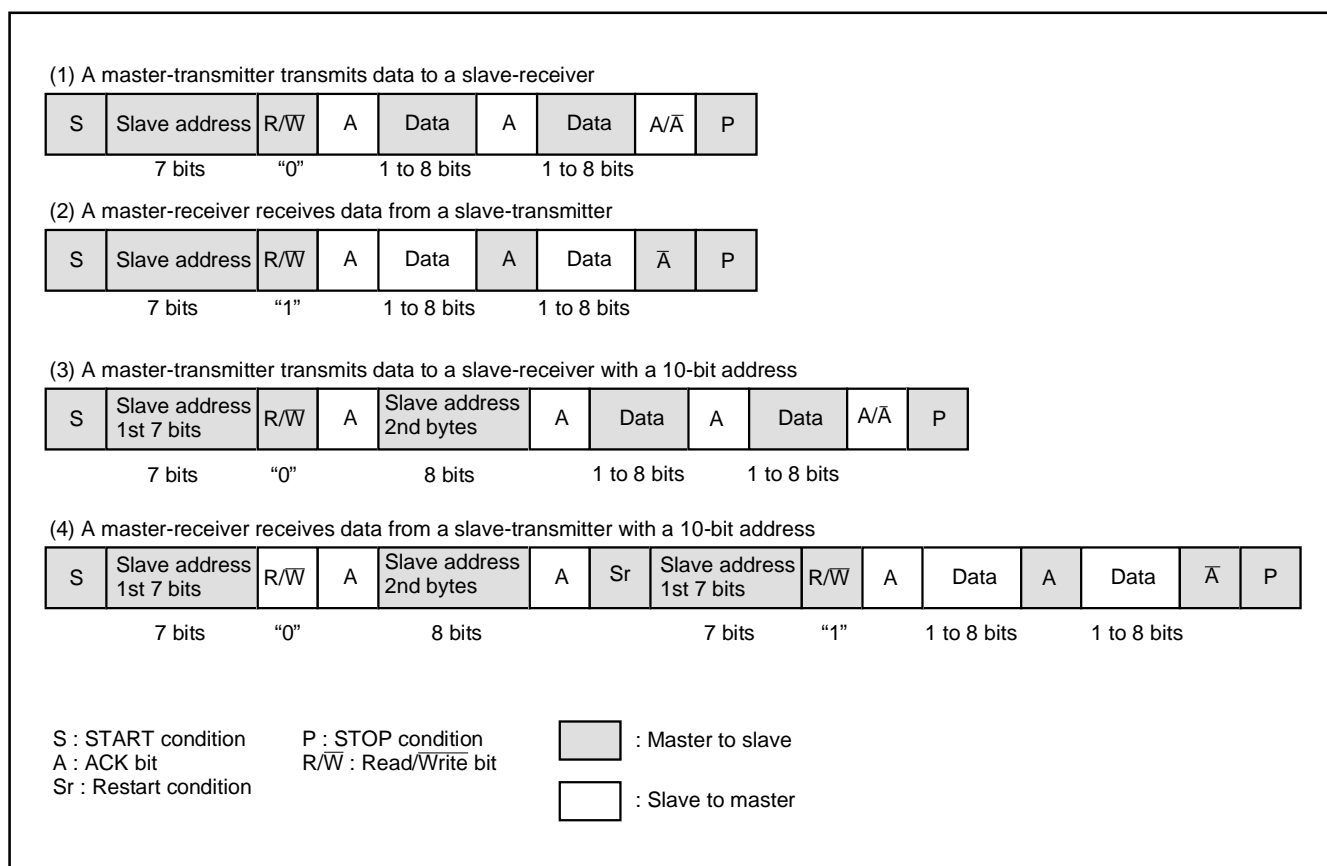

Fig. 69 Address data communication format
① 7-bit addressing format
To adapt the 7-bit addressing format, set the 10BIT SAD bit of the I²C control register (S1D: address 0014₁₆) to "0". The first 7-bit address data transmitted from the master is compared with the high-order 7-bit slave address stored in the I²C slave address register. At the time of this comparison, address comparison of the RWB bit of the I²C slave address register is not performed. For the data transmission format when the 7-bit addressing format is selected, refer to Figure 69, (1) and (2).
② 10-bit addressing format
When the first-byte address data agree with the slave address, the AAS bit of the I²C status register (S1: address 0013₁₆) is set to "1." After the second-byte address data is stored into the I²C data shift register (S0: address 0011₁₆), perform an address comparison between the second-byte data and the slave address by software. When the address data of the 2 bytes agree with the slave address, set the RWB bit of the I²C slave address register to "1" by software. This processing can make the 7-bit slave address and $\overline{R/\overline{W}}$ data agree, which are received after a RESTART condition is detected, with the value of the I²C slave address register. For the data transmission format when the 10-bit addressing format is selected, refer to Figure 69, (3) and (4).